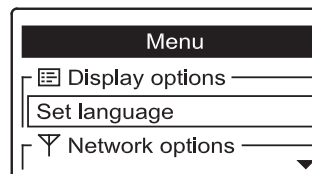

FIG. 43
6. If the remote does not already show a menu screen, press the remote's SELECT (O) button to display a **Menu** screen. (See Figure 43 on the next page).
1. If no device has been added to the remote, the menu shown in Figure 43 is displayed instead of status screens. In this case, skip to step 2. Otherwise, if status screens are shown, press the remote's SELECT (○) button to display a **Menu** screen (See Figure 43).